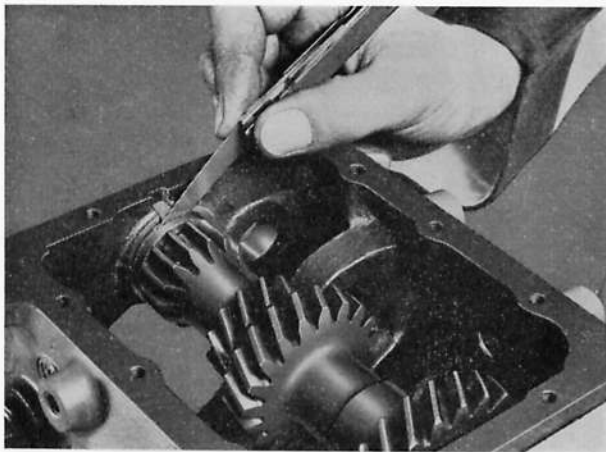

Fig. G.24. Checking the end float of the layshaft gear
2. Check the end float of the layshaft in the casing, with new thrust washers (Fig. G.24). The front washer is identified by a flat on the periphery.